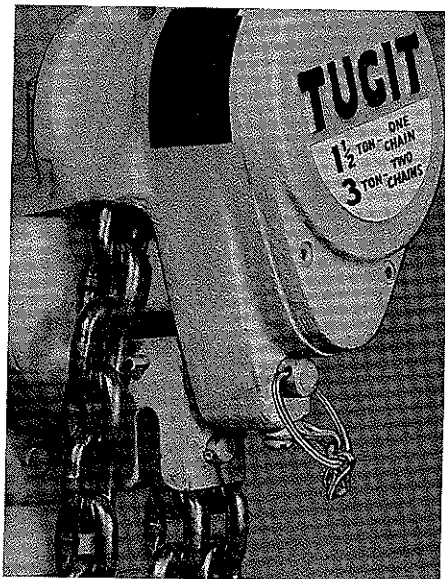

Figure 8-3.
- To convert hoist from 3 ton Double Line to 1-1/2 ton Single Line, position hoist as shown in Figure 8-3.